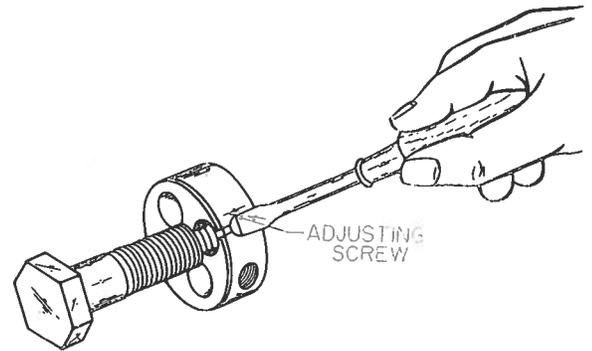

Fig. 20-7 Adjusting a threading die to a standard bolt.
3. Adjust the die to fit a standard bolt, that is, a bolt with threads of the same size you want to make (Fig. 20-7).